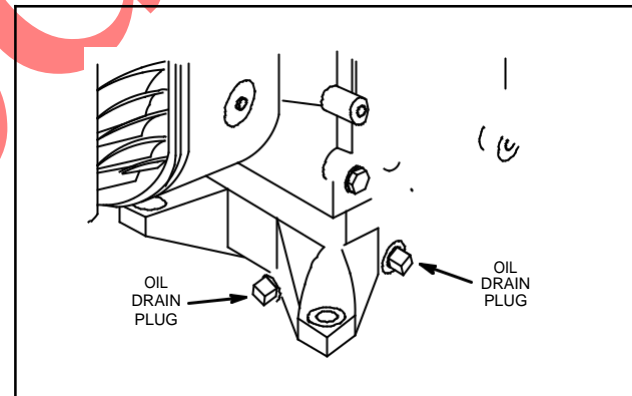
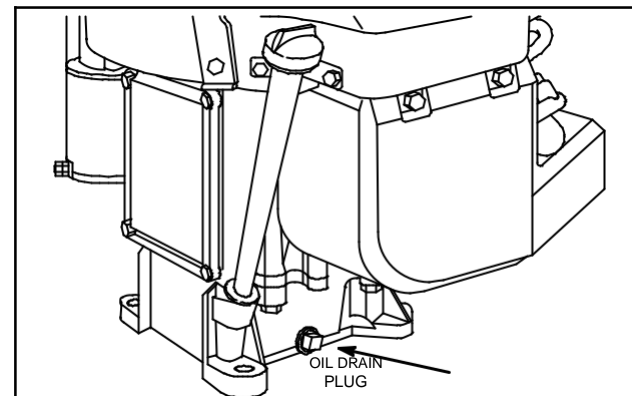

Fig. 1 – Horizontal Crankshaft Engine
Fig. 2 – Vertical Crankshaft Engine
Remove oil drain plug and drain oil while engine is still warm, Fig. 1 and Fig. 2. Replace drain plug. Remove dipstick and refill slowly with new oil of proper service classification and viscosity grade. Refill to full mark on dipstick. When checking oil level, dipstick must be screwed all the way in for accurate readings. Start and run engine to check for oil leaks.
**IMPORTANT:** DO NOT OVERFILL. Check and maintain oil level regularly. Change oil after first five (5) hours of operation.
Thereafter, change oil every fifty (50) hours of operation. Change oil more often if engine is operated in dirty or dusty conditions or if engine is operated under heavy loads or in high ambient air temperatures. Remove oil drain plug and drain oil while engine is still warm, Fig. 1 and Fig. 2. Replace drain plug.